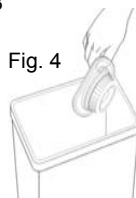

Fig. 4
5. Vigorously "TapClean" the HEPA Dust Cup Filter on a hard surface until no more dust is observed falling out from between the pleats of the filter. (fig. 4)